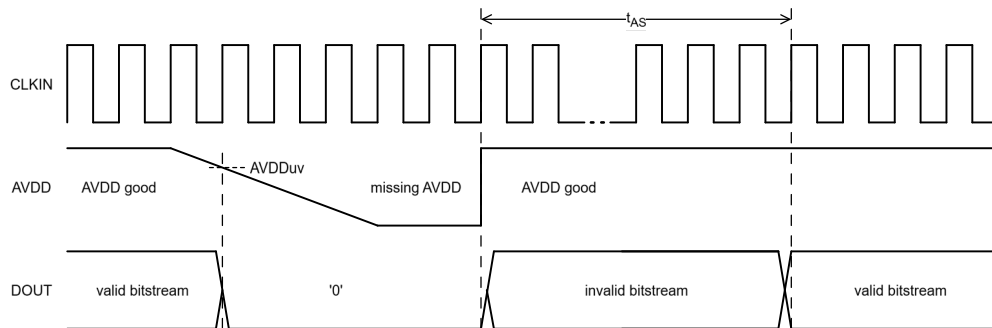

Figure 8.2 Fail-safe output
- When the undervoltage of AVDD is detected ($AVDD < AVDD_{UV}$), DOUT pin outputs a bitstream of all logic zeros, as shown in Figure 8.2.